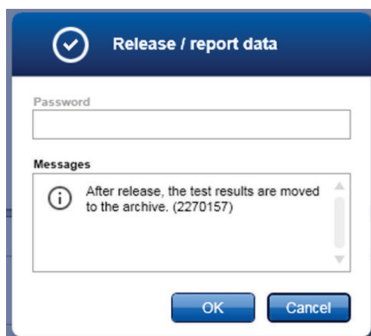

Figure 25. "Release/report data" dialog.
11. Click "OK" to save the experiment to the archive and create a LIMS output and run report (Figure 25).